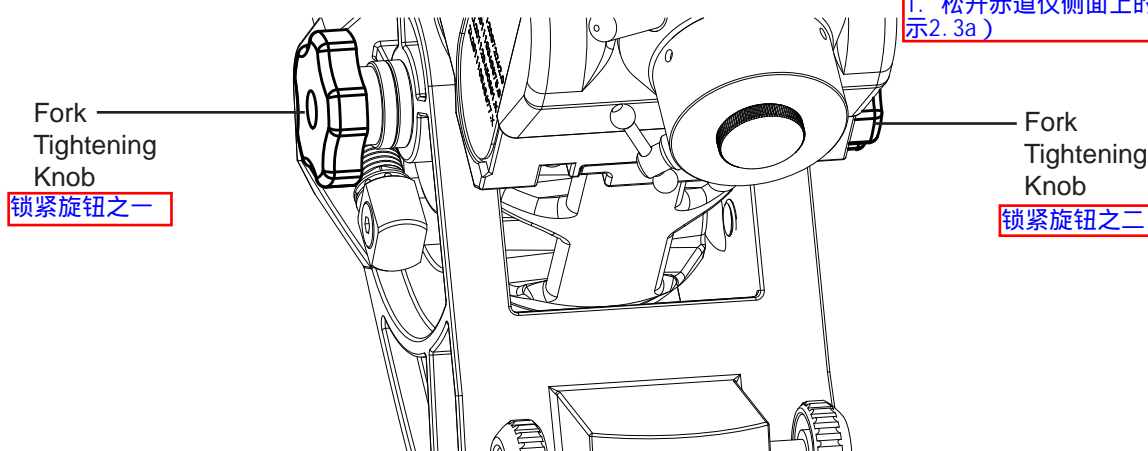

Fig. 2.3a
1. Loosen the two fork tightening knobs located on the sidewalls of the mount. (Fig. 2.3a)